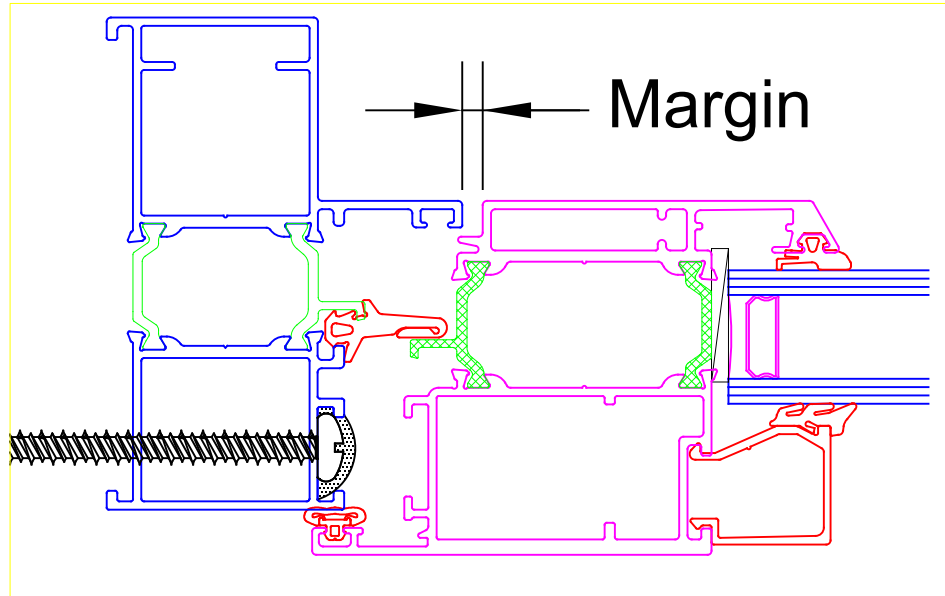

Figure 10
A. Look at the margin between the door panel and the door frame (See figure 10). If the margin is not even around the perimeter of the door panel, the door will need adjustment. Determine which direction the panel needs the adjustment. The door panel needs uniformly centered in the frame.